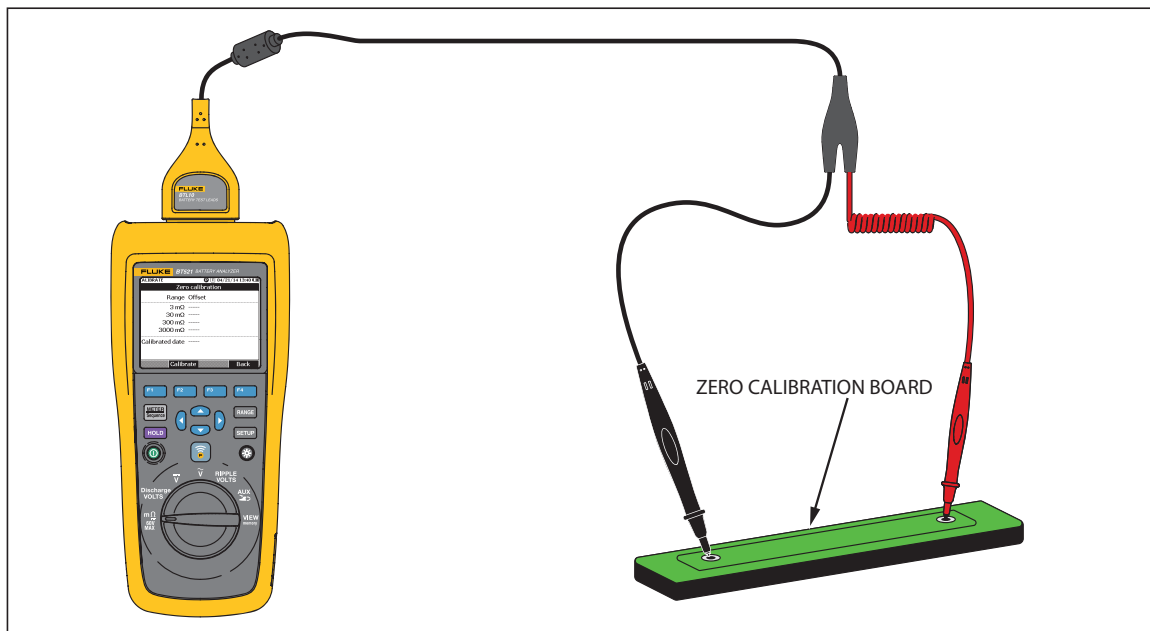

Figure 4-4. Zero Calibration Setup
1. Locate the zero calibration board on a flat surface horizontally. See Figure 4-4.